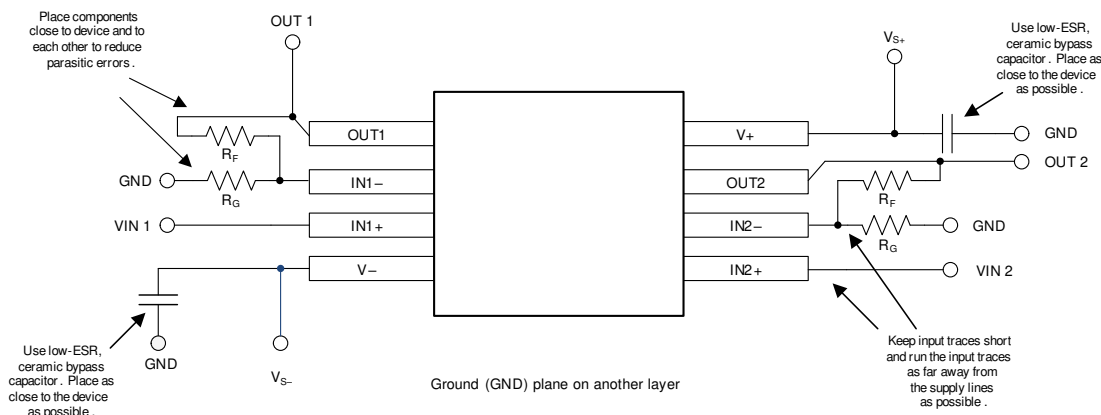

图 11-2. Layout Example
- Place the external components as close to the device as possible, as shown in 图 11-2. Keeping  $R_F$  and  $R_G$  close to the inverting input minimizes parasitic capacitance.